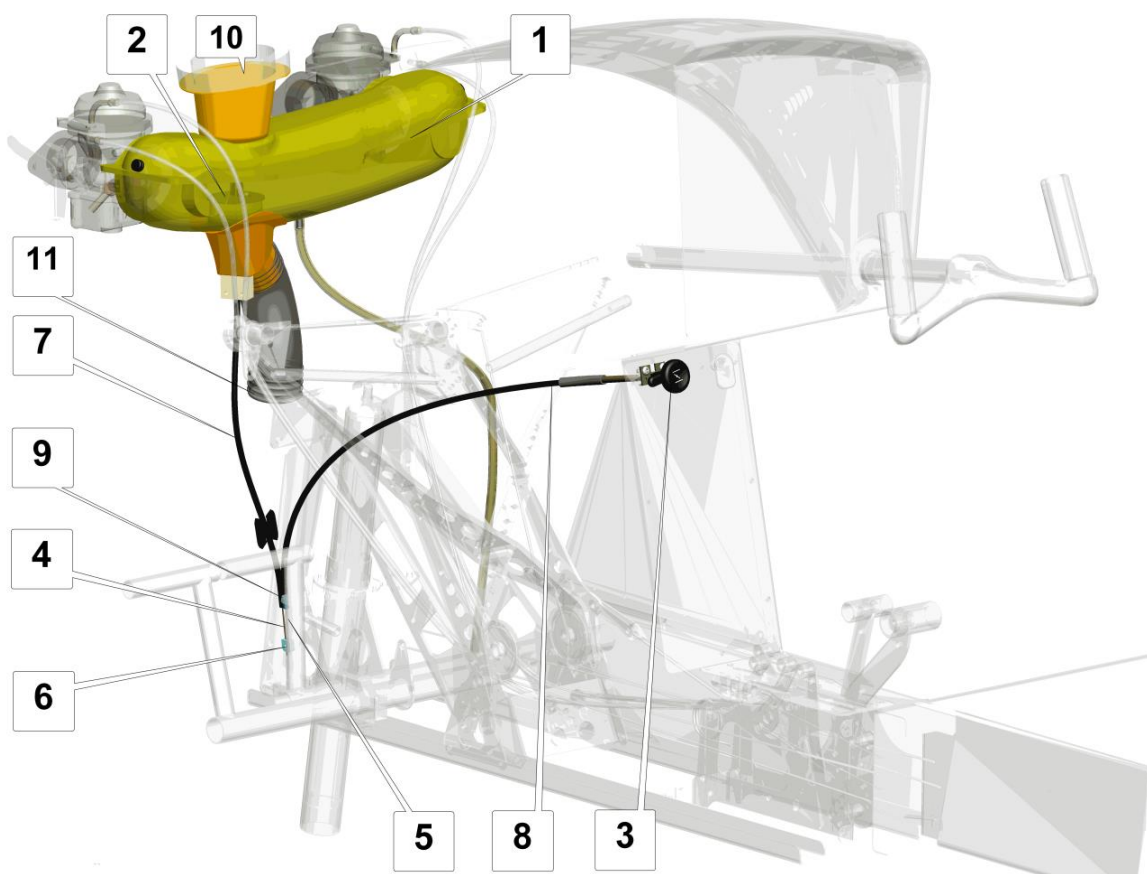

Fig. 11 Carburettor heating control
Carburetor heating control (**Fig. 11**) is achieved by means of controlling the position of the shutter (2) in the air intake box (1) covering the air filters of the carburetors. The control lever (3) is connected to the shutter with forward (4) and rear (5) push-pull cables and clip (6). The cables are enclosed in forward sheath (7, fixed to air intake box) and rear sheath (8, fixed to the instrument panel) connected to each other with a clamp (9).